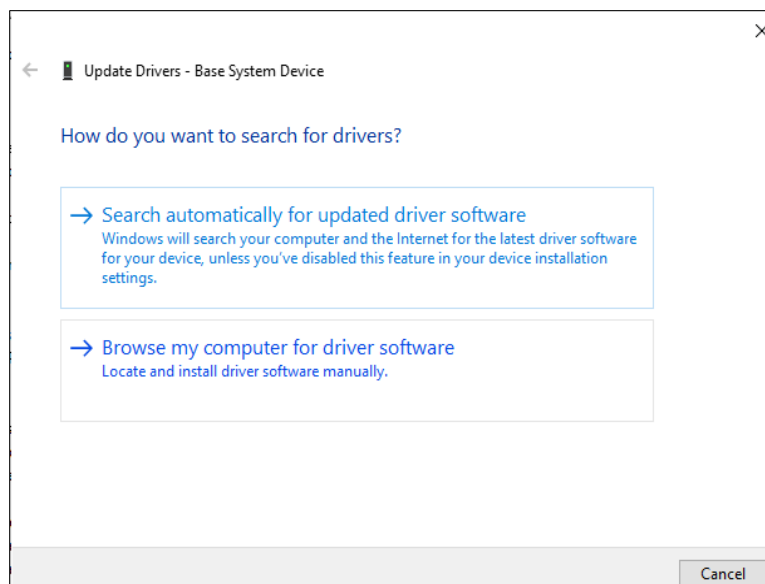

Figure 5.26. Update Driver Options
5. Select the **Browse my computer for driver software** option as shown in Figure 5.26.